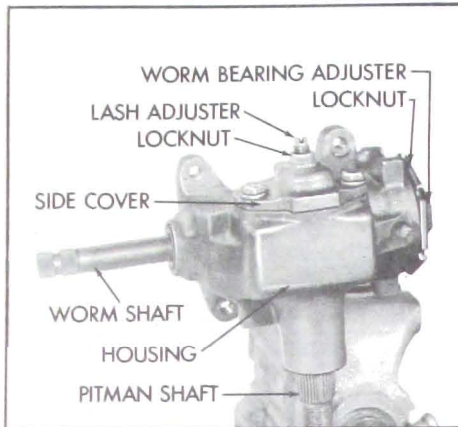

Figure 8-3—Manual Steering Gear Adjusters
7. Adjust worm Bearing Preload. Loosen worm bearing adjuster lock nut using a drift. See Figure 8-3. Turn bearing adjuster as required to bring pull between 5 and 9 inch pounds. Tighten lock nut, then recheck preload.